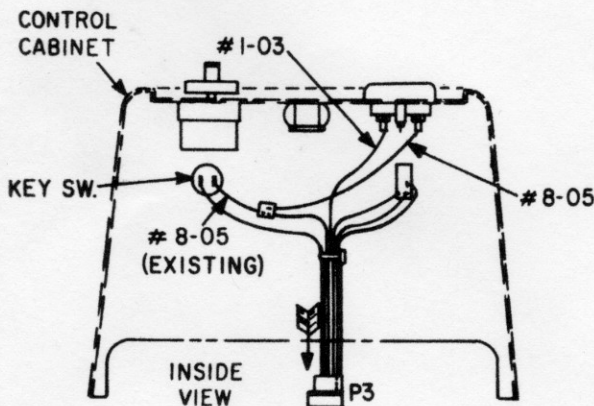

Figure 2
2. Disconnect plug P3 from jack J3 which joins the control cabinet wiring to the control panel wiring. See Figure 2.